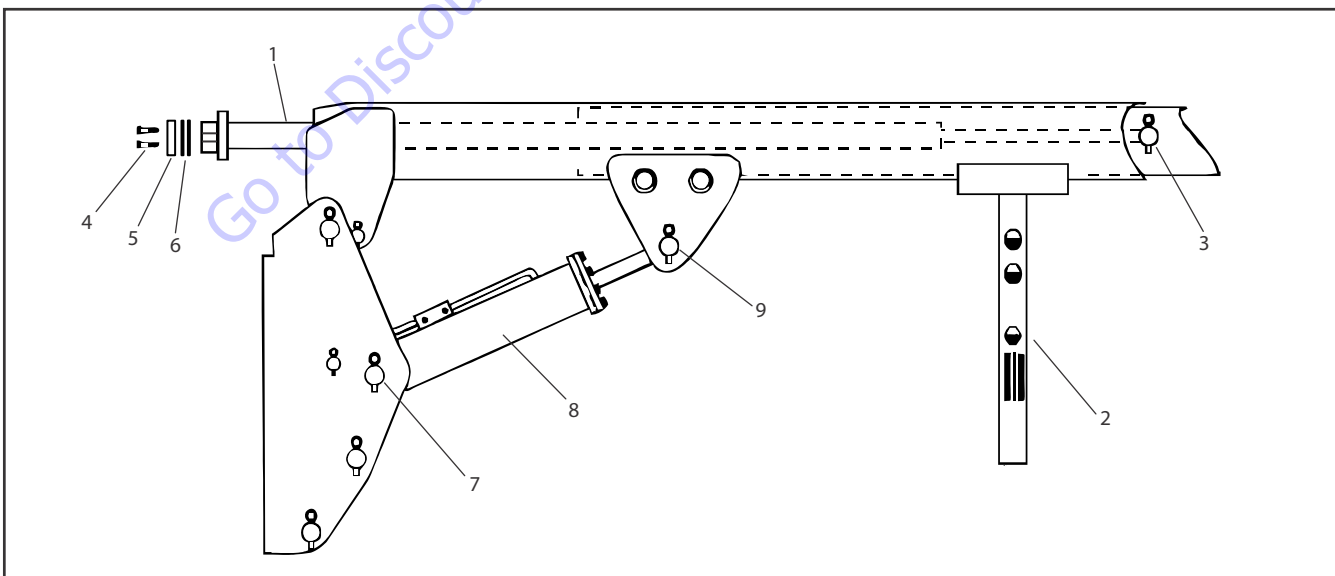

Figure 5-3. Telescope and Lift Cylinder Installation
1. Place machine on a flat and level surface, with main boom horizontal. Shut down engine and prop boom See Figure 5-3. Telescope and Lift Cylinder Installation.
1. With boom positioned as in Figure 5-3. Telescope and Lift Cylinder Installation, slide telescope cylinder into boom, aligning cylinder port block end with slotted holes in Base Boom. Secure telescope cylinder with mounting hardware.